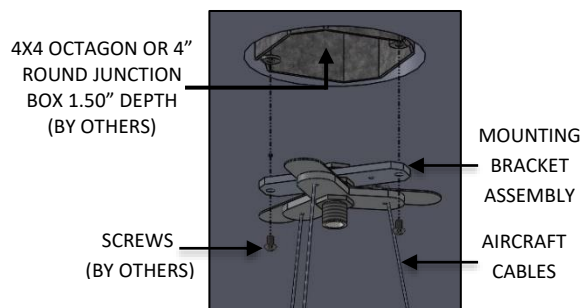

FIG. 17 – MOUNTING BRACKET ASSEMBLY
- Secure the MOUNTING BRACKET ASSEMBLY along with AIRCRAFT CABLES to the JUNCTION BOX (by others) as shown below in FIG. 17.